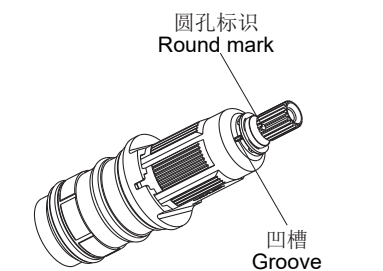

Fig.5
**注意：**确保拆卸、安装过程中不要转动温控阀轴。如不小心转动了阀轴，要调整阀轴使外齿上的圆孔标识与相邻的塑料套上的凹槽对齐(Fig.5)，或者按前述方法进行调整。
**NOTE:** Do not turn the cartridge when reinstalling it. If you turned it accidentally, you should adjust it and be sure that the round mark is correctly in line with the groove(Fig.5), or readjust as per the steps of verification and setting.